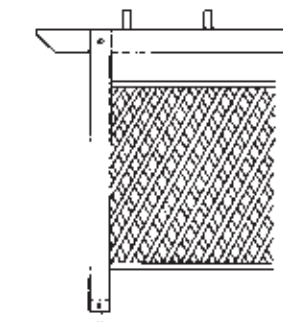

Fig 10 Pine lattice as screen.
*Note: Always allow a small gradient pitch for water run off. A handy tip is to vary the spacing off the battens, which will create interesting shade patterns before deciding on final placement. Decorative elements can be added to your pergola using treated pine lattice (Fig 10) or by cutting your own decorative timber corner brackets (Fig 11).*